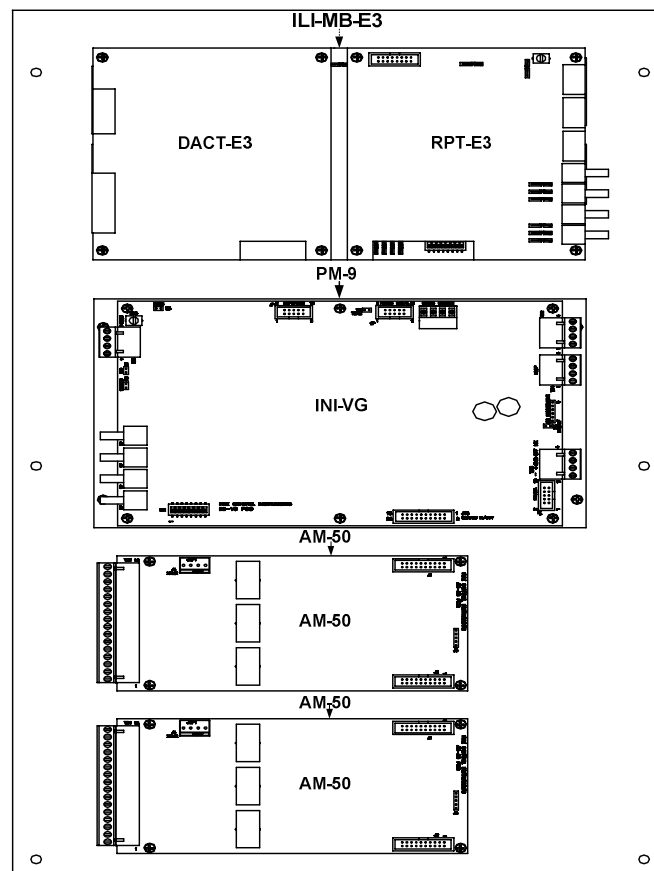

Figure 2.5.6.3-A Cabinet C, INX-E3, Sub-Assembly Plate (Standard View)
- 6) Mount two (2), AM-50 sub-assemblies on the INX-E3 plate and secure with eight (8), standoffs (3/16" #4-40 x 1 1/4") in the two (2), four-hole mounting patterns as shown in Location 6.
- 7) Mount two (2), AM-50 units on top of the two (2), AM-50 units, and secure eight (8), screws (#4-40 x 1/4") into the eight (8), standoffs as shown in Location 7 of Figure 2.5.6.3-B.